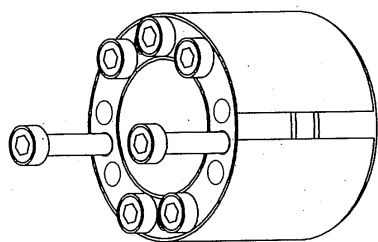

Fig. 2 Pre-assembly
3. Tighten two locking bolts into diametrically opposite tapped holes for removal from taper ring A until they stop. Lightly tighten the remaining locking bolts into their ordinary holes. Then, after confirming the distance between two taper rings is the maximum, loosen the bolts in the tapped holes one full turn to make a clearance for the POWER-LOCK unit. This completes the pre-assembly of the POWER-LOCK. (Fig. 2)